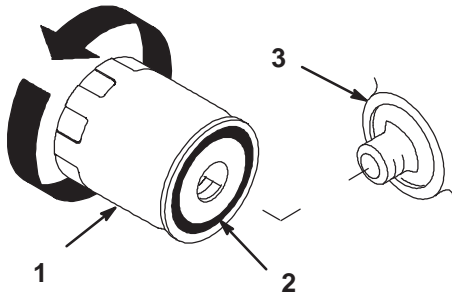

Figure 42
2. Remove the old filter and wipe the filter adapter (Fig. 42) gasket surface.
4. Apply a thin coat of new oil to the rubber gasket on the replacement filter (Fig. 42).
5. Install the replacement oil filter to the filter adapter. Turn the oil filter clockwise until the rubber gasket contacts the filter adapter, then tighten the filter an additional 1/2 turn (Fig. 42).